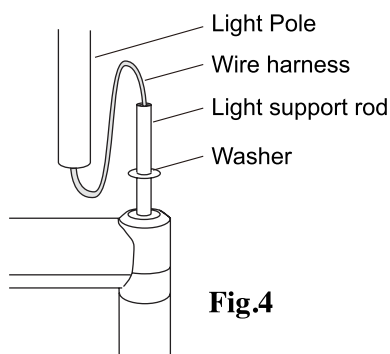

Fig.4
- (4) Feed the light assembly wire harness through the light support rod (Fig.4) and pull the end of the harness from side of the cuspidor post as below (Fig.5).